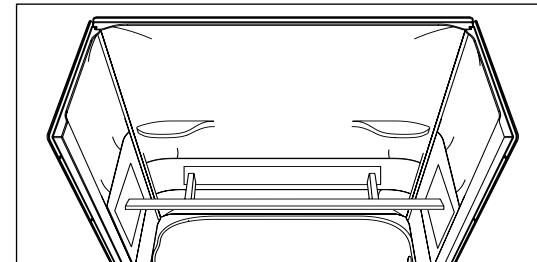

FIGURE 10. Apply pressure to all panels by cross bracing
- j. Panels must be held tight to studs during drying process. Apply pressure to panels in grab bar surface while adhesive dries with cross bracing. (Fig. 10)